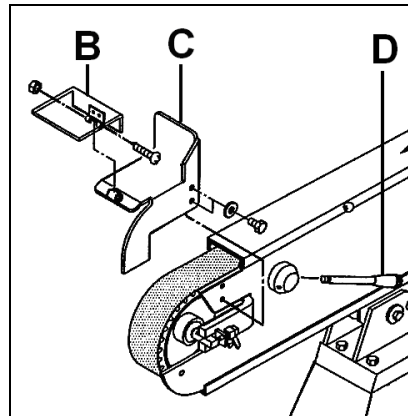
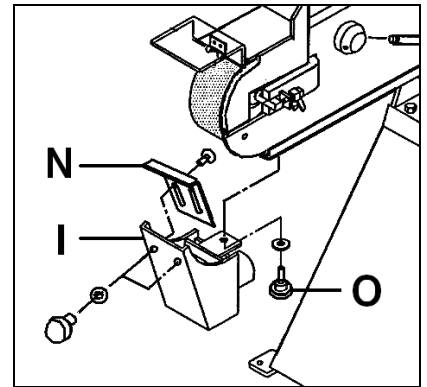

Fig 5
Fig 6
Attach the stop plate (C, Fig 5) with 2 screws and washers. Attach the eye shield (B).
Attach the dust tray (I, Fig 6) with star knob (O) and washer. Attach the adjustable lower belt cover (N) with 2 star knobs, washers and carriage bolts.
Close the eye shield (B, Fig 5) and the lower belt cover (N, Fig 6).
Close the lower belt cover (N, Fig 6).